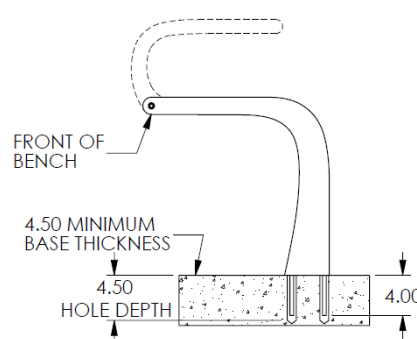

FIGURE 3
FOR EMBEDDED BENCH: See figures 3 and 4.
1. Lay out anchor locations as shown in Figures 3 and 4.